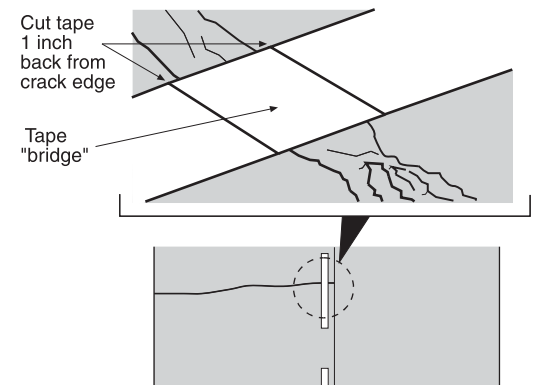

Figure 14
**Note:** If there is a crack in the pavement or if the tape is to be applied over a bridge expansion joint, lay the tape over the crack or joint, then cut the tape one inch away from the crack or joint on each side. (See Figure 14.)